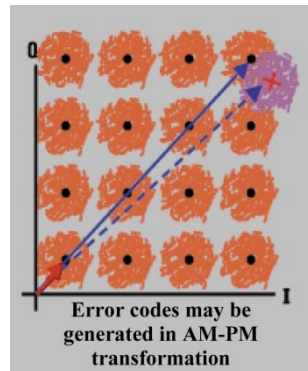

Figure 8.18 AM-PM conversion causes bit error
cause of the bit error. AM-PM conversion is one of the main factors causing bit error, so it is very important to measure this parameter quantitatively in communication system. The I/Q Diagram in Figure 8.18 illustrates the causes why AM-PM conversion introduces bit error.
- 3) For the 64QAM signal as shown in Figure 8.18 (only one quadrant is drawn), the noise circles around each state overlap, which means that there will be a bit error in statistics.